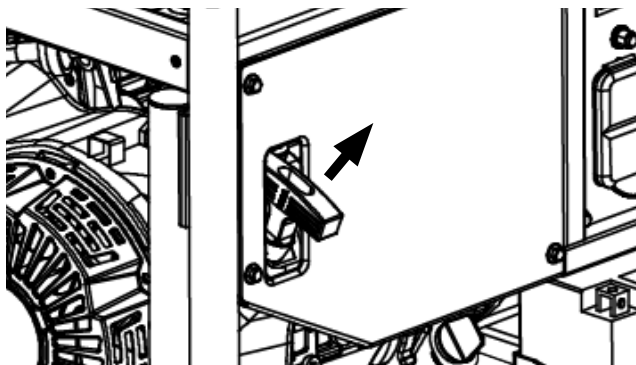

Figure 11 - Engine Recoil Handle - PULL
- b. Recoil Start (WPro8500 only): Firmly grasp and pull the recoil handle slowly until you feel increased resistance. At this point, apply a rapid pull while pulling up and slightly away from the generator (see Figure 11). *Note: If battery is dead or disconnected you will have to set choke to "On" manually and move to "Off" when engine starts.*